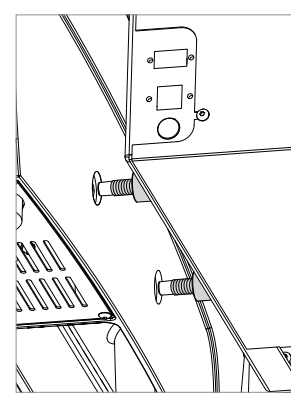
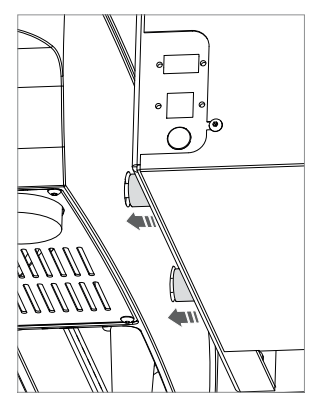

Fig. 31
Fig. 32
- 2) Move the feeder unit to the machine, insert the 2 pins into the threaded holes and then the bushings in the seat (counterbore) of the machine base (Fig. 31 and Fig. 32).